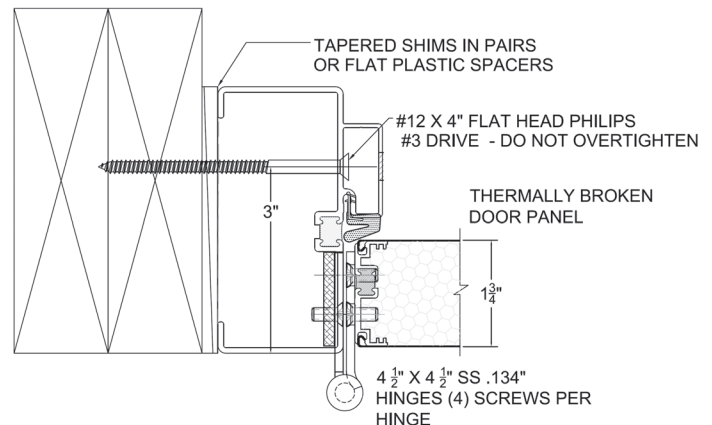

FIG. 2 Shim Frame and Install Screws
STEP 2 Ensure that the hinge jamb is in correct position and is plumb. DO NOT OPEN DOOR. Using (2) #12 x 4" flat-head screws (included), loosely fasten the hinge jamb to the structural framing through the top & bottom concealed outer frame holes provided.
Measure the diagonals of the outer frame, make equal and install (2) #12 x 4" flat-head screws into the top & bottom holes on the strike side of the outer frame. See FIG. 2.